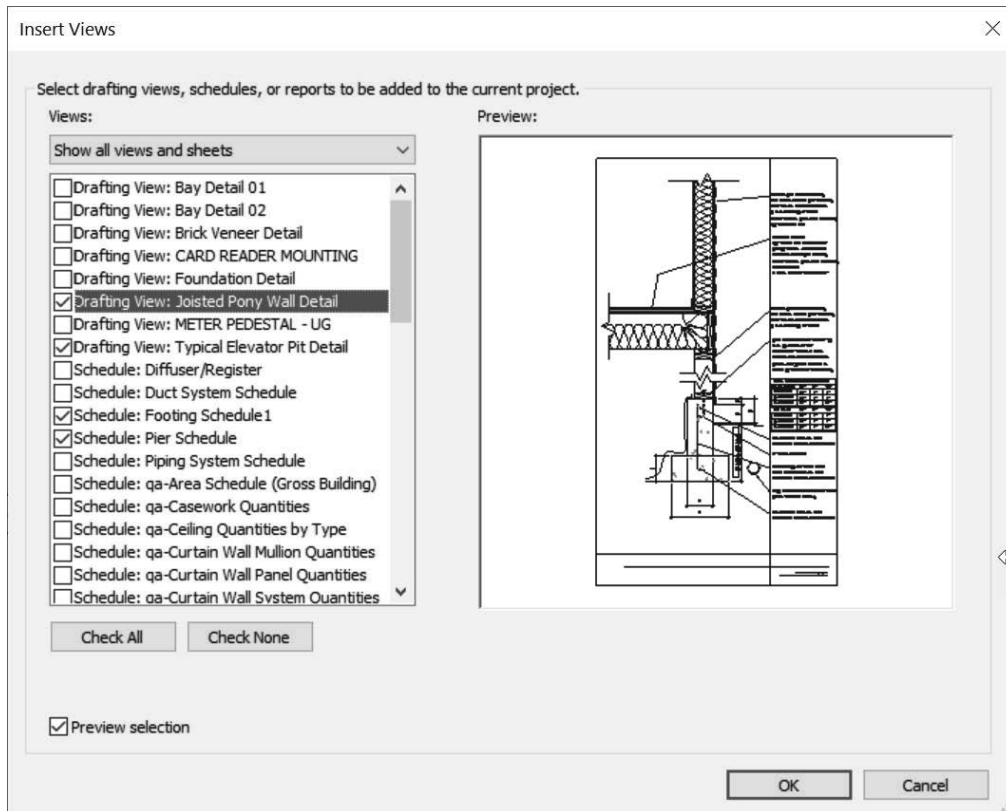

Figure 1–55
5. Select one or two drafting views and one or two schedules from the list, as shown in Figure 1–55.